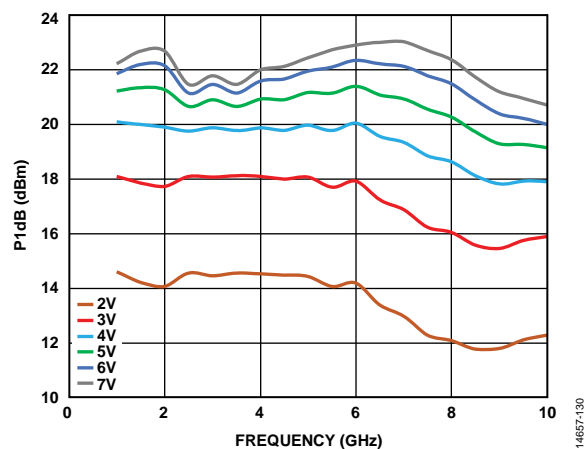
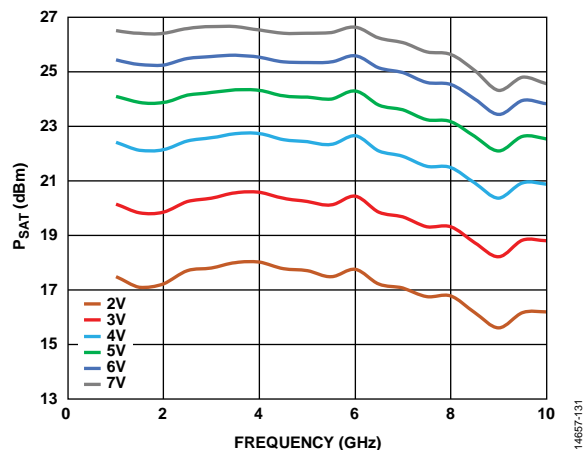

Figure 30. P1dB vs. Frequency for Various Supply Voltages, $I_{DQ} = 65$ mA
Figure 31. P_{SAT} vs. Frequency for Various Supply Voltages, $I_{DQ} = 65$ mA
Figure 18, Figure 30, and Figure 31 show that increasing the voltage from 2 V to 7 V typically increases P_{1dB} and P_{SAT} at the expense of power consumption with minor degradation on noise figure (NF).